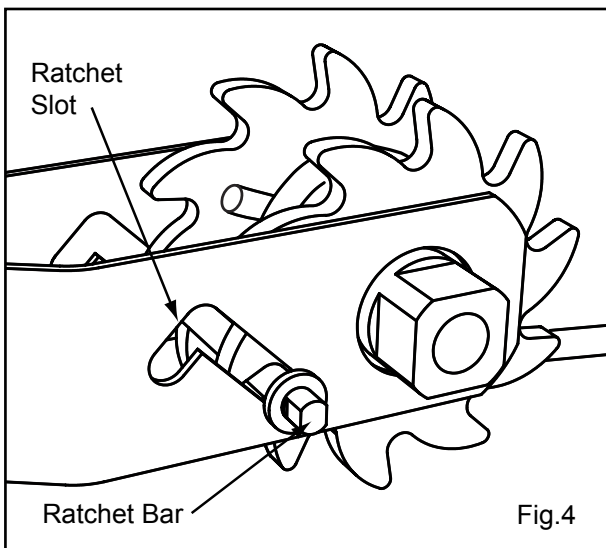

Fig.4
- 8 With a short tail of Cable (about 30mm) protruding wind the Ratchet Wheel clockwise (with a suitable wrench) to tighten the Tensioning Cable. Tuck the tail of the Cable under the first few windings to prevent it pulling out and to stop it fouling the Ratchet Bar (Fig.4).